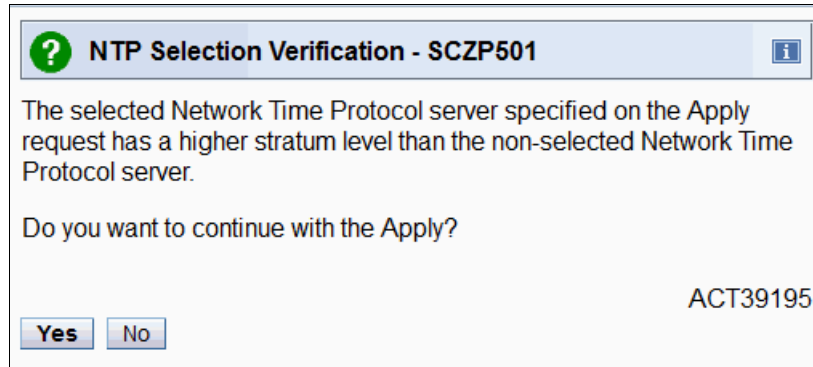

Figure 9-32 System (Sysplex) Time: NTP Selection Verification
6. The NTP Selection Verification panel opens (Figure 9-32). Click **Yes**.